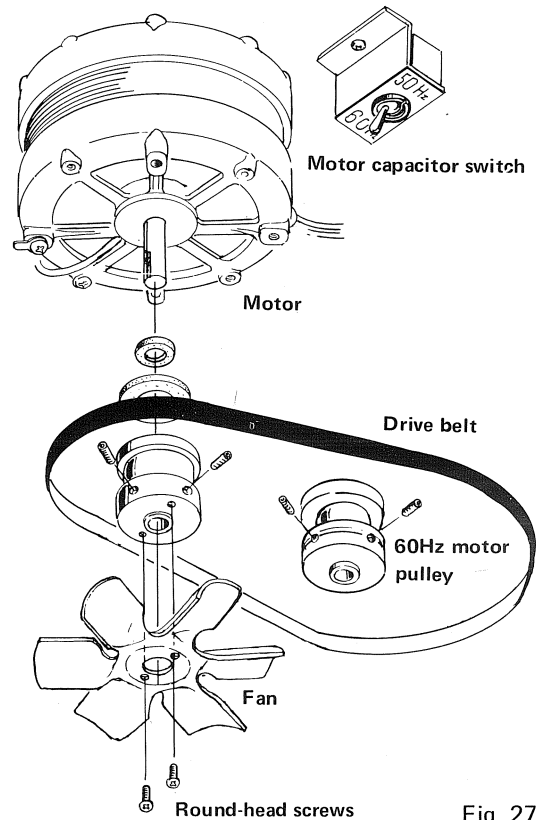

Fig. 27
4. Remove the fan from the pulley by unscrewing the two screws (Fig. 27).